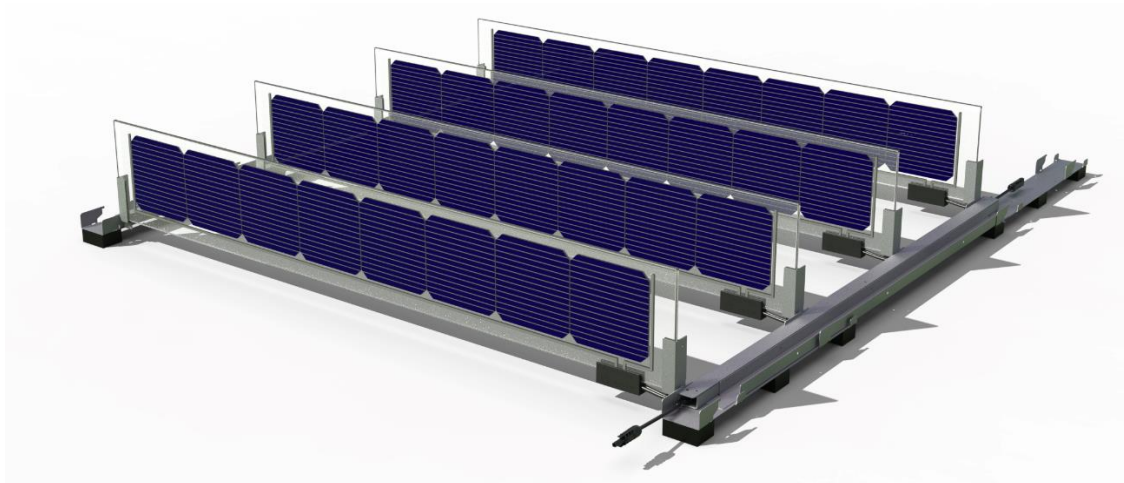

Figure 2: VPV unit with LM feet for flat roof tops
- LM ("low mount") with friction pads and a ground clearance of 4.0 cm for flat roofs (see Figure 2),